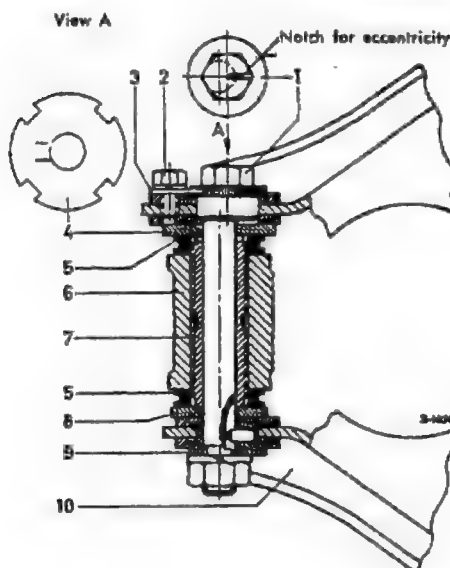

Fig. 40-3/1
The front wheel camber is adjusted at the steering knuckle by turning the eccentric bolt (1) (Fig. 40-3/1). To do this, back out the hexagon screw (2) and remove together with the locking plate (3). After the hexagon nut has been unscrewed, the camber can be adjusted to the prescribed value by turning the eccentric bolt to the left or to the right. The highest point of the eccentric bolt is marked by a notch on the hexagon head.